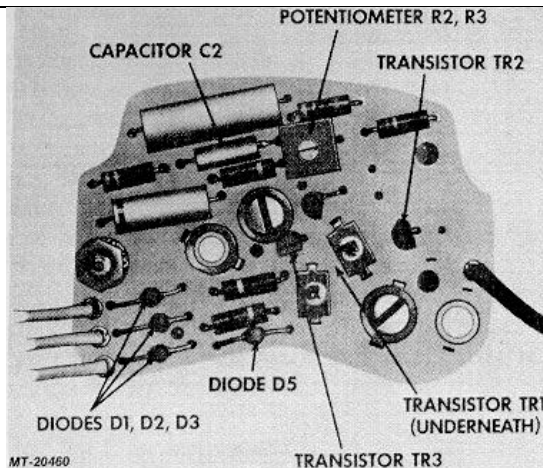

Fig. 16. Regulator Panel Board Assembly
(Regulator shown in Figure 16 Only)
The regulator can be repaired by following the procedure outlined below. The panel board (Figure 16) is shown without the sealing compound so that the seven (7) serviceable parts can be easily identified.
With ohmmeter connected, turn potentiometer slotted screw (Figure 16). Ohmmeter needle should deflect slightly. If no deflection at all, replace R2.
(Regulator Shown in Figure 16)*